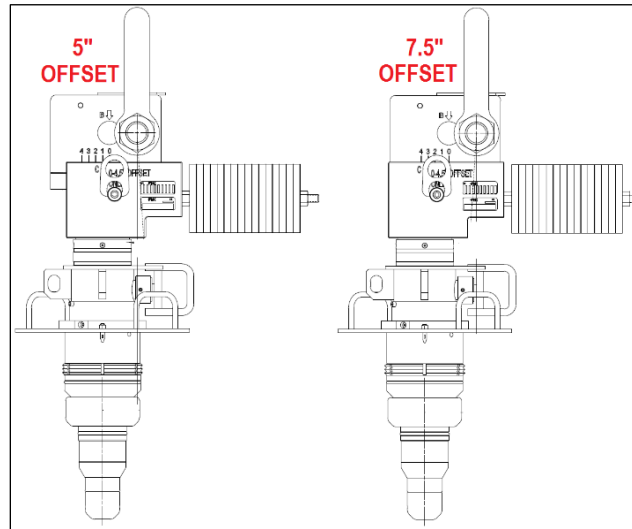

Figure 14: 5.0" to 7.5" offset
- For 5.0" to 7.5" offsets, install 16 counterweights and secure with Qty. 2, 1.25" nuts. See Figure 14.